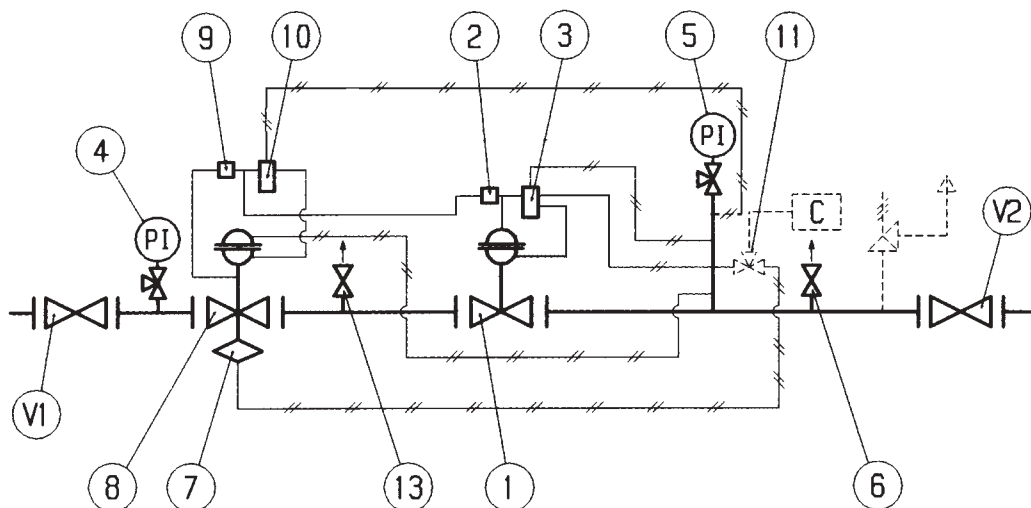

Fig. 24
5.5 COMMISSIONING THE REGULATOR PLUS REFLUX 819 IN-LINE MONITOR WITH SB/82 SLAM-SHUT VALVE (FIG. 24)